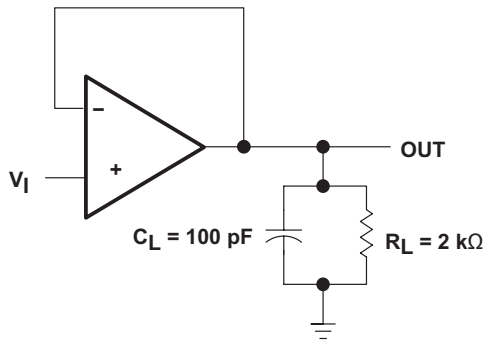

Figure 1.
$V_I = 10\ \text{V}, R_L = 2\ \text{k}\Omega, C_L = 100\ \text{pF}, T_A = -55^\circ\text{C}$ to $125^\circ\text{C}$ , See <a href="#">Figure 1</a>	5 (1)